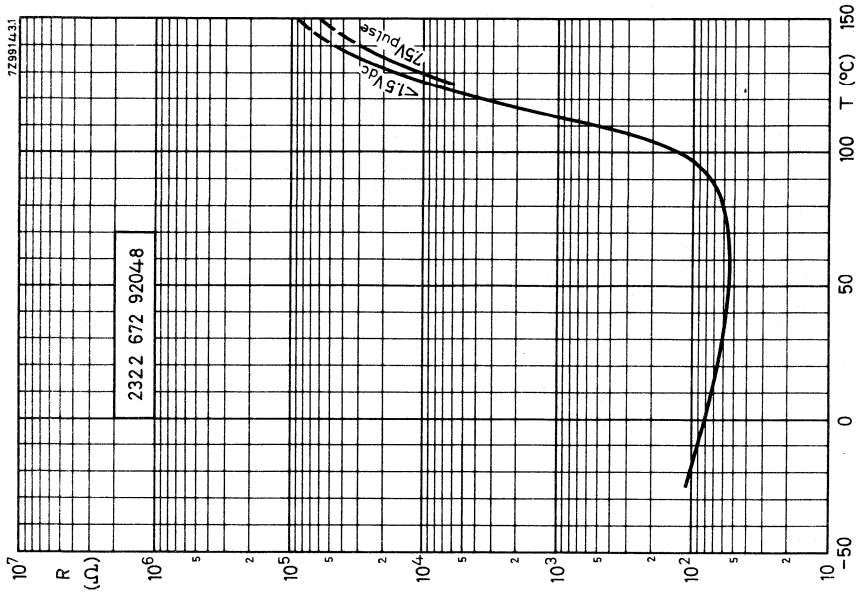

Fig. 5.
3. Overtemperature (Fig. 5), where the PTC thermistor is in intimate thermal contact with an overheating load ( $T_{amb2}$ ). Here, due to external heating, the PTC thermistor needs less external energy to reach its switch point B, so B2 moves below the load-line CD.